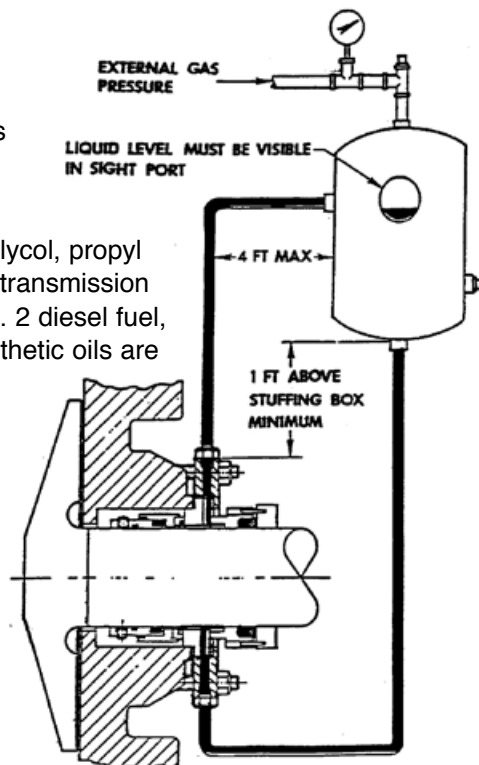

Figure 25
Barrier fluid or buffer fluid (Figure 25) is a liquid or gas introduced between two (2) seals. Care must be taken when choosing barrier fluid for an application. A barrier/buffer fluid should be: